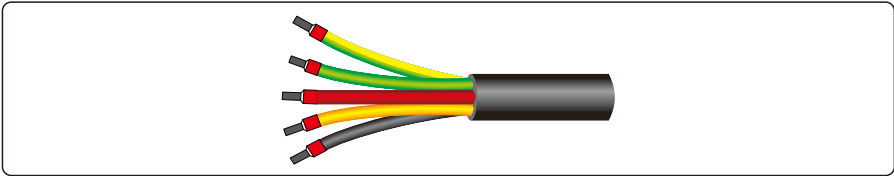

Figure 5.5 Crimping Euro type terminals
Step 2 Crimp Euro type terminals using special crimping tool, as shown in Figure 5.5.